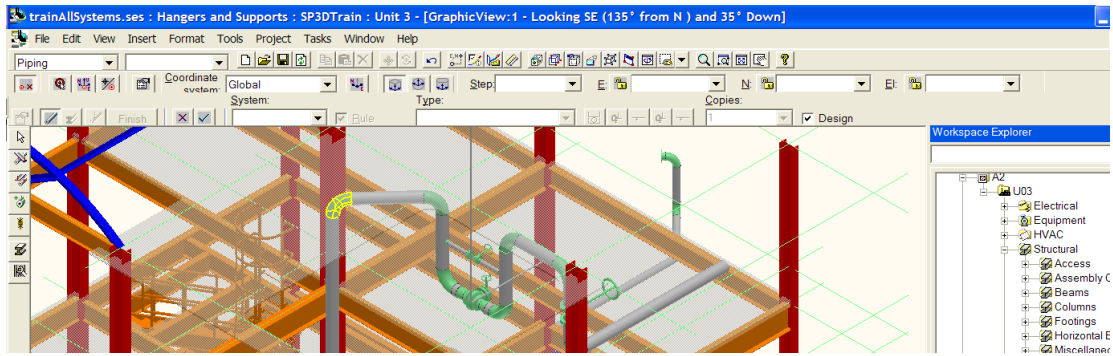

Figure 23: Selected Elbow
3. Place a designed support by point selecting the elbow on pipeline **U03/Water/300-W**, as shown in Figure 23.